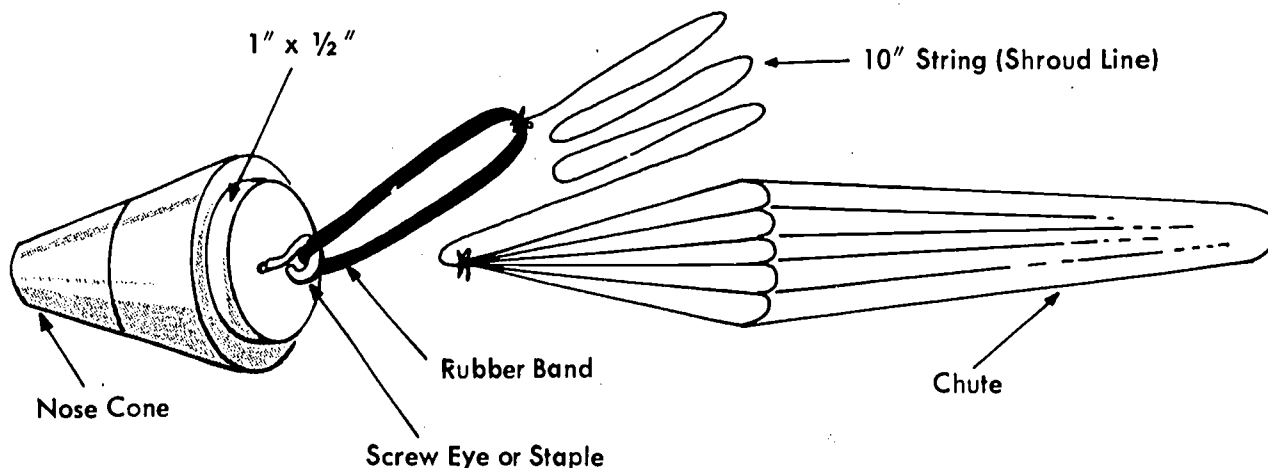

Fig. 12-1. Alternate Rocket-Shock-Cord Assembly
- 5 $\frac{1}{8}$ " x 18" airplane contest rubber shock cords, see Fig. 12-1
5. Demonstrate laying out, cutting, and assembling shock cords to air frame-fin subassemblies. See Fig. 12-1. Send Student 3 of each group to work.